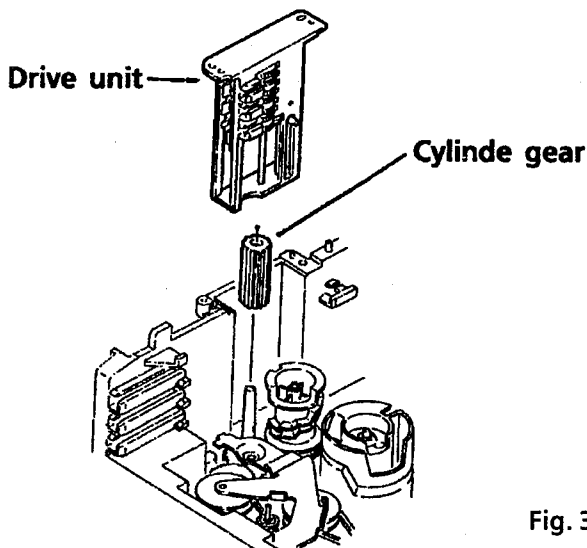

Fig. 35
3. Remove the drive unit and cylinder gear. (See Fig.35.)